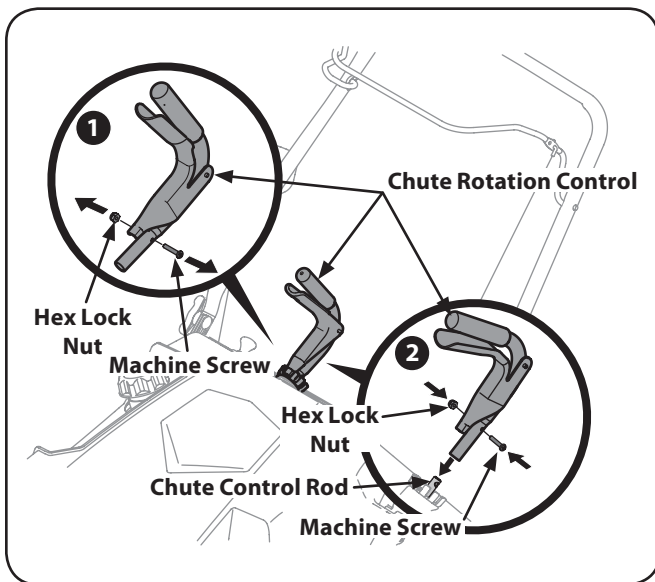

Figure 3-5
- Remove the hex lock nut and machine screw from the chute rotation control. See Fig. 3-5.
- Place the chute rotation control onto the chute rotation rod and secure with the hex lock nut and machine screw removed in step 1. See Fig. 3-5.